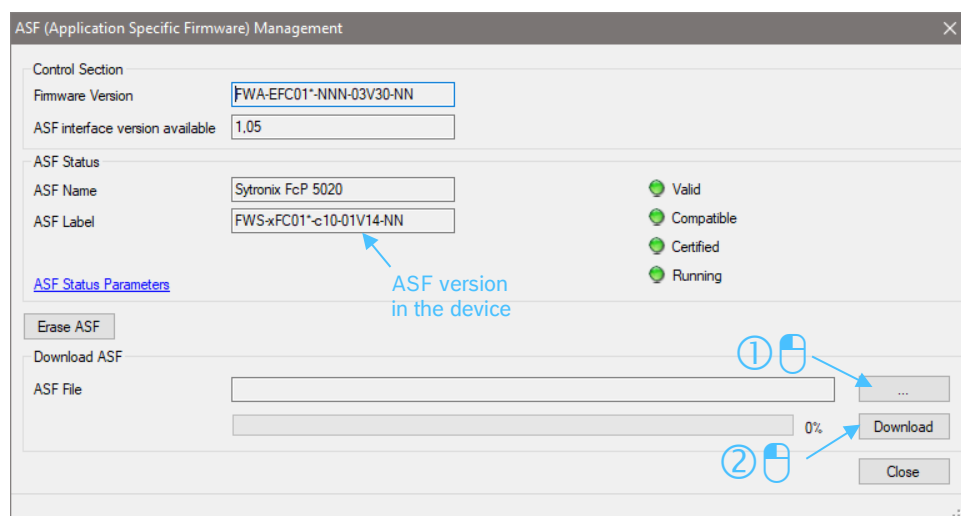

Abb. 15: ASF update window
- Click on "..." to navigate to an ASF file (*.ibf) and download it to the device by clicking on "Download" (see Abb. 15: ASF update window).